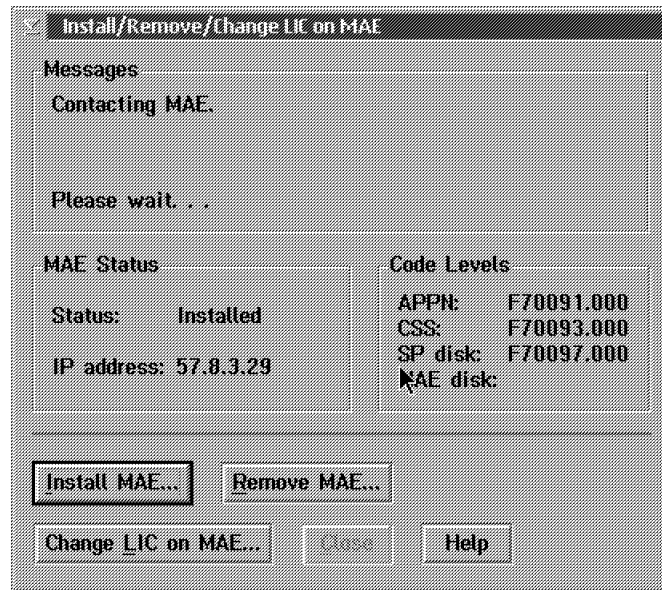

Figure 1. Changing MAE LIC Installation Window
- \_\_\_ 11. From the **Multiaccess Enclosure (MAE) Management** folder, select the **Install/Remove/Change LIC on MAE** function, in order to replace the MAE LIC on the MAE hard disk with the MAE LIC stored on the service processor hard disk. The following window is displayed (Figure 1 on page 9).